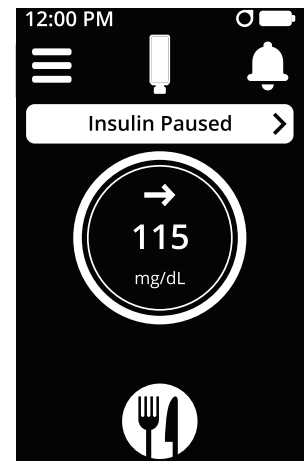

Figure 108
- d. The home screen will have a banner indicating that insulin is paused (see Figure 108).